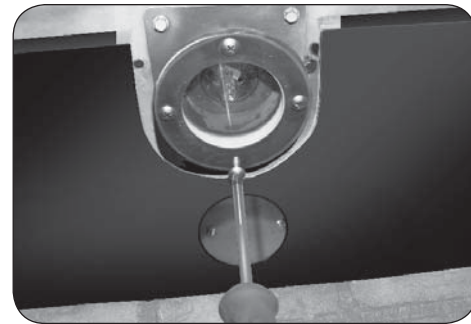

Fig. 54-2 Remove light assembly
2. Using a Phillips screwdriver, unfasten the 4 screws that hold the light assembly in place (see Fig. 54-2). Then remove the glass, housing plate, and gaskets. Set aside the glass and housing plate. Discard the old gaskets.